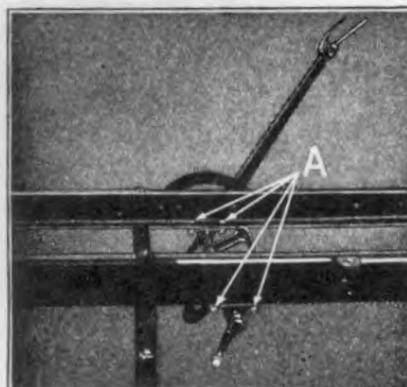

Fig. 57
**59 Remove control shaft** by running out the four control shaft bracket bolts and nuts (See "A" Fig. 57).